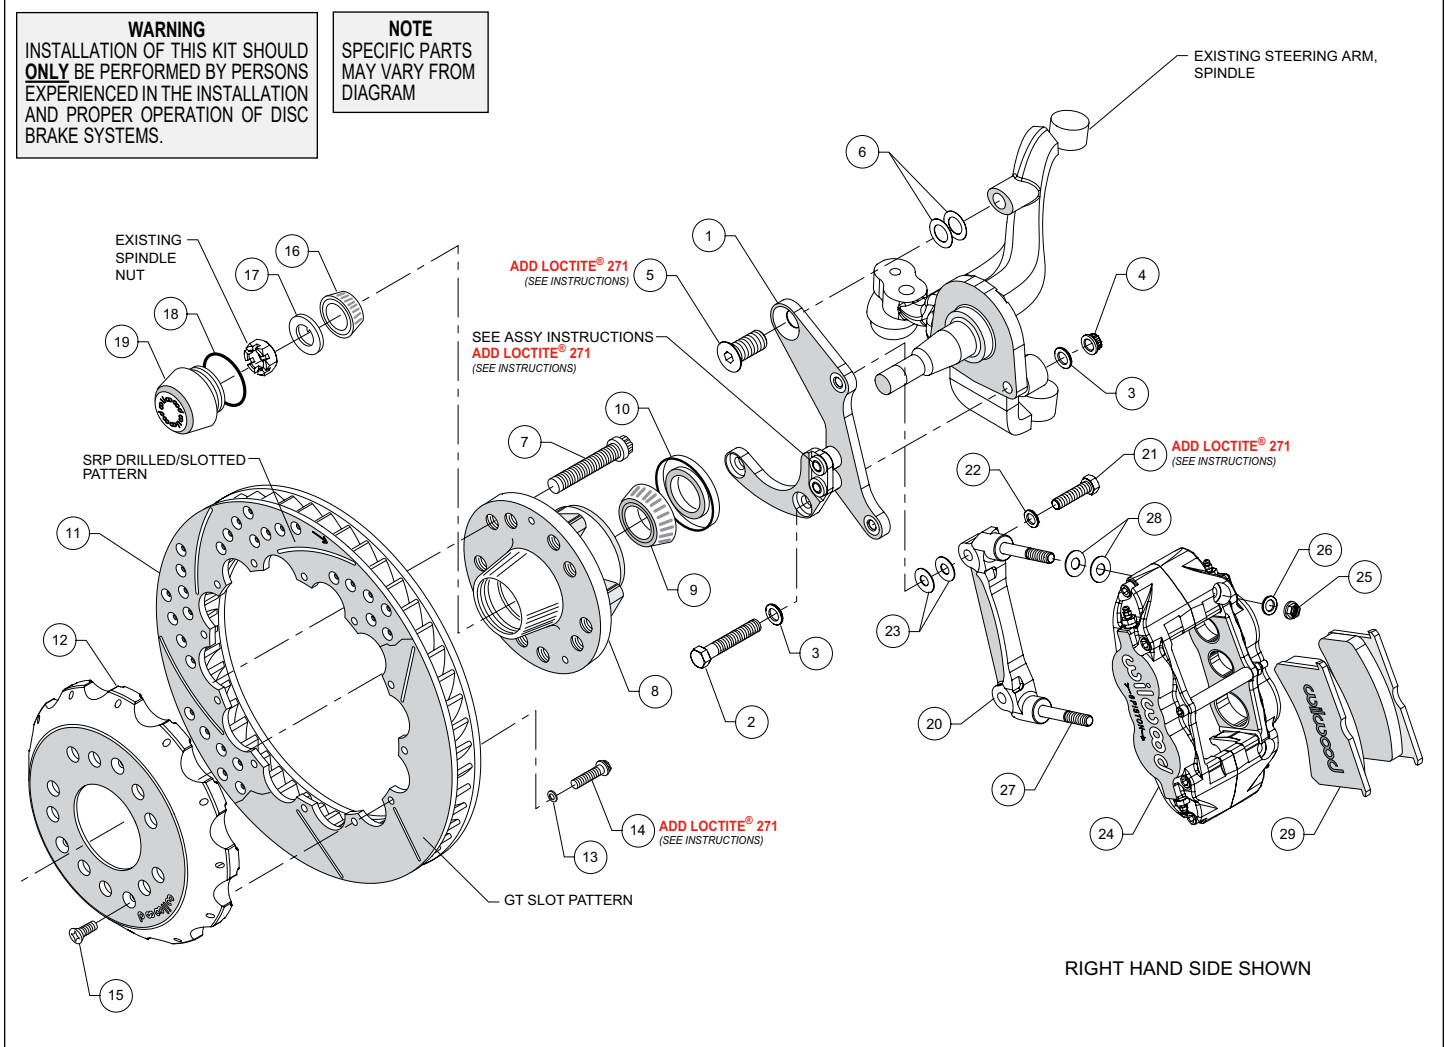
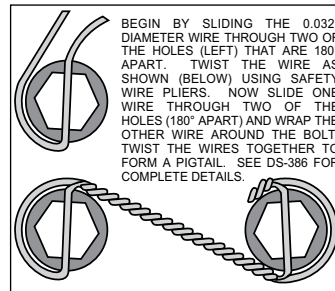
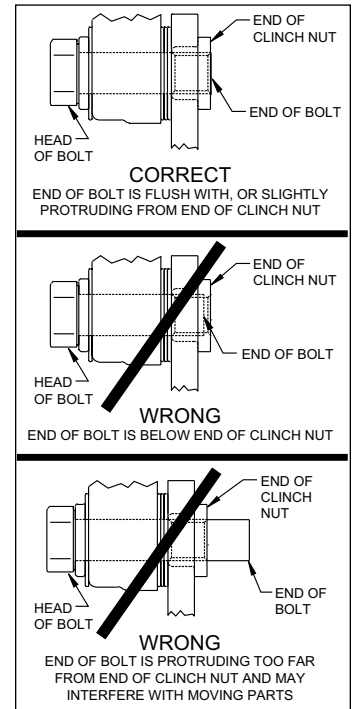

Figure 1. Typical Installation Configuration
Figure 3. Safety Wire Diagram
Figure 4. Clinch Nut Engagement Diagram
Assembly Instructions (numbers in parenthesis refer to the parts list and Figure 1 on the preceding pages): **CAUTION: All mounting bolts must fully engage clinch nuts.** Be sure to check that all bolts are either flush or protruding through flanged side of clinch nut after shimming, Figure 4.
- The spindle bracket (1) has been assembled at the factory for alignment purposes. Loosen the two bolts that secure the brackets together so that the bolts are hand tight only. This will enable the bracket assembly to be adjusted to accommodate various spindle tolerances during assembly. Align bracket with the two lower holes on the spindle face and attach using bolts (2), washers (3), and secure using nuts (4), as shown in Figure 1 and Photo 1. Install bolt (5) through top of bracket while placing shims (6) between bracket and spindle, Figure 1. Initially use two .024" thick shims (6) on the top bolt between the bracket and upright. Temporarily tighten the mounting bolts. Ensure that the flanged heads of the clinch nuts in the bracket are facing outboard, Photo 1. **NOTE: The bracket must fit squarely against the mounting points on the spindle.** Inspect for interference from casting irregularities, machining ridges, burrs, etc. Some spindles may require a small amount of grinding to clear the bracket assembly in the area of the bracket-to-bracket spacers.
- Check that the bracket is aligned parallel to the rotor by assembling and installing the hub/rotor per the step below. If not, adjust by adding or subtracting shims (6) between the spindle and bracket, Figure 1.
- Install wheel studs (7) into the hub (8), Photo 2. Torque to 77 ft-lb. **NOTE: There are two five lug patterns in the hub (5 x 4.50 and 5 x 4.75).** Ensure the correct hub stud pattern is being used to fit the wheel application.
- Pack the large inner bearing cone (9) with high temperature disc brake bearing grease (available from your local auto parts store) and install into the backside of the hub (8), Photo 3.
- Install the grease seal (10) by pressing into the backside of the hub (8), flush with the end of the hub, Photo 3.
- Orient the rotor (11) and the hat (12) as shown in Figure 1 and Photo 4. Attach rotor to hat using bolts (14) and washers (13). Apply red *Loctite*® 271 to the bolt threads and torque to 155 **in-lb** using a criss-cross pattern. For an added measure of security, the bolts may be safety wired using standard 0.032 inch diameter stainless steel safety wire as shown in Figure 3. Refer to Wilwood's data sheet DS-386 (available at www.wilwood.com/Pdf/DataSheets/ds386.pdf) for complete safety wire installation instructions.
- Slide the hat/rotor assembly (11/12) onto the hub (8) taking care to align the small countersunk holes in the hat (12) with the small threaded holes in the hub. **NOTE:** *The hat must fit flush against the hub face or excessive rotor run out may result.* Install three flat head screws (15) through the small holes in the hat, Photo 6, and torque to 85 **in-lb**.
- The caliper mount bracket (20) should initially be installed with clean, dry threads on the mounting bolts. Orient the bracket as shown in Figure 1 and Photo 7, and install using bolts (21) and washers (22). Initially place two .035" thick shims (23) on each bolt between the bracket and the spindle bracket (1), Figure 1. Temporarily tighten the mounting bolts. Later, after the caliper alignment has been checked, the mount bolts will be secured using red *Loctite*® 271.
- **NOTE:** *This kit contains distinct right and left hand calipers that must be mounted in a specific direction, as described below.* Initially place two .035" thick shims (28) on each stud (27) between the caliper and the bracket, as shown in Figure 1 and Photo 8. Mount the caliper (24) onto the bracket (27) using lock nuts (25) and washers (26), Figure 1. Ensure that the caliper is mounted so the largest pistons are at the rotor exit end of the caliper, in relation to the direction of rotor rotation. Temporarily tighten the lock nuts and view the rotor through the top opening of the caliper. The rotor should be centered in the caliper, Photo 9. If not, adjust by adding or subtracting shims (23) between the spindle bracket (1) and the caliper bracket. Always use the same amount of shims on each of the two mounting bolts. **NOTE:** *The end of each bolt must be flush with or slightly protruding from the head of the clinch nut, as shown in Figure 4.* If necessary place spare shims between washer (22) and caliper mounting bracket to achieve the proper clinch nut engagement. Once the caliper alignment and clinch nut engagement are correct, remove the bolts one at a time, apply red *Loctite*® 271 to the threads, and torque to 40 ft-lb.